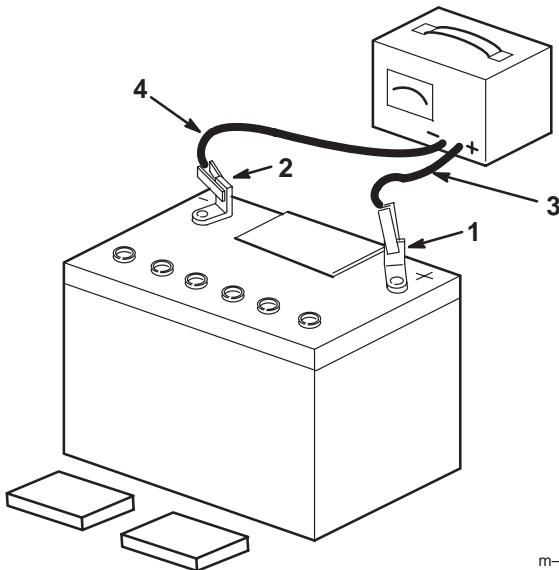

Figure 6
8. Leave the covers off and connect a 3 to 4 amp battery charger to the battery posts (Fig. 6). Charge the battery at a rate of 4 amperes or less for 4 hours (12 volts).
9. When the battery is fully charged, disconnect the charger from the electrical outlet then from the negative and positive battery posts (Fig. 6).